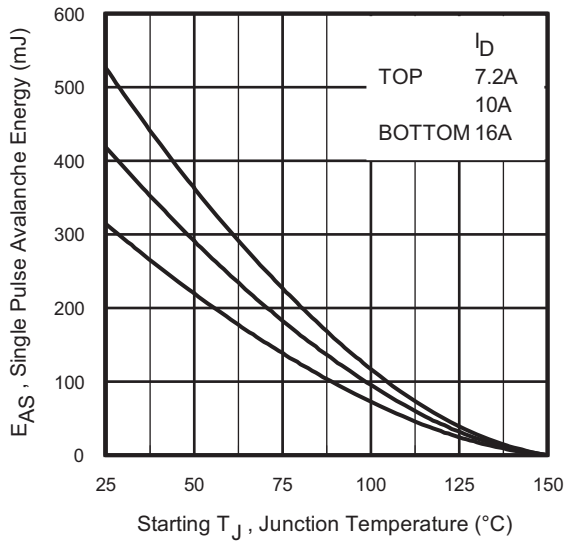

Fig. 14a - Maximum Avalanche Energy vs. Drain Current
- Starting $T_J = 25$ °C, $L = 2.5$ mH, $R_G = 25$ Ω , $I_{AS} = 16$ A (see fig. 14a).